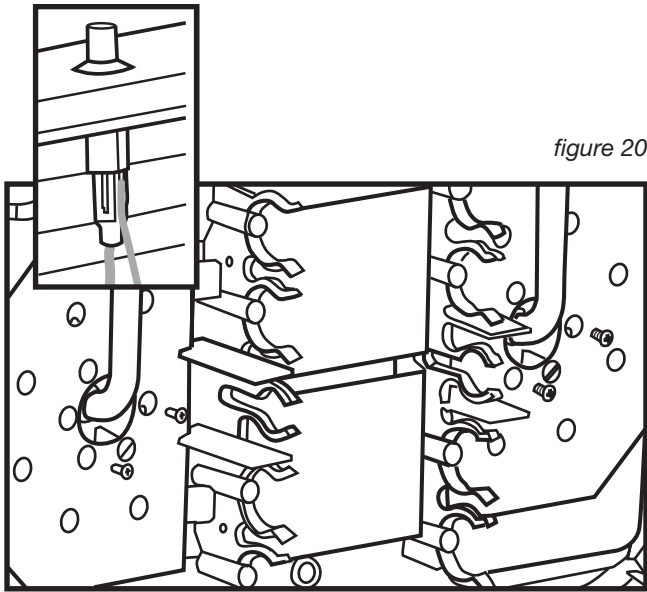

figure 20
3. From underneath the stove, pull ignitor wires free from ignitor electrodes and remove (2) burner screws that secure each burner to the stove, as shown in figure 20.